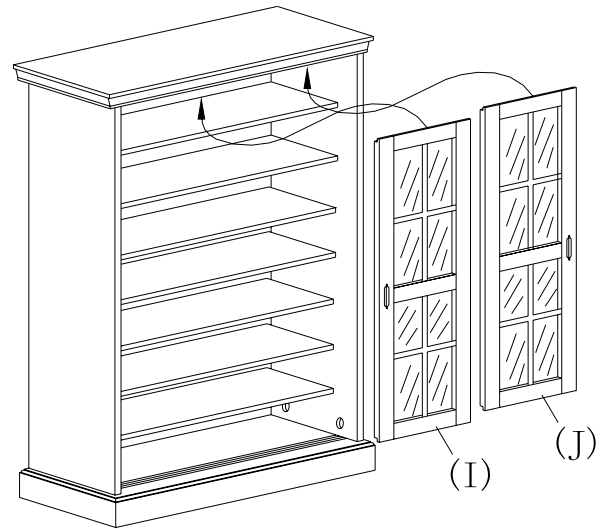

FIGURE 4
8. FIT LEFT AND RIGHT DOORS (I, J) INTO GROOVES ON TOP PANEL AND BASE (A, D). AS FIGURE 4 SHOWN.